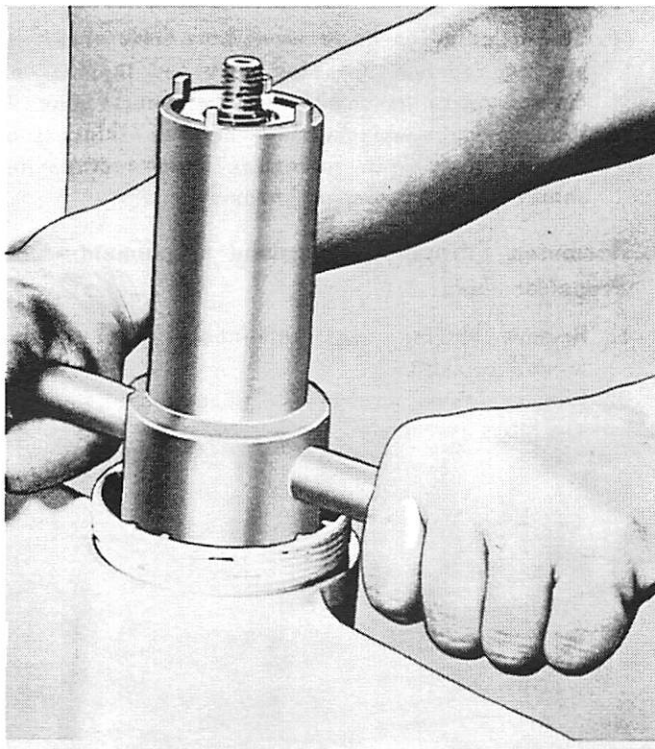

Figure 1. Removing Gear Case Cover
8. Remove gear case cover and washer with Gear Case Cover Tool (91-30291A1). Place tool over end of propeller shaft and set tool into cover, turning clockwise to loosen (left hand thread). (Figure 1) If tight, strike handle of tool with mallet to loosen.